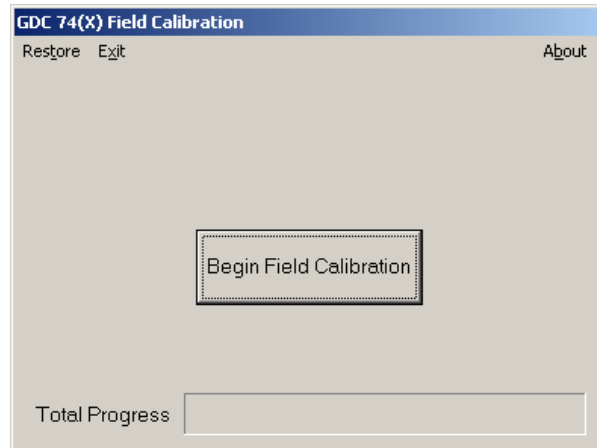

Figure 5-44. GDC 74X Field Calibration Utility, Main Page
22. After the altitude calibrations are complete, the 'Program Calibration to Unit?' screen (Figure 5-44) appears. Click 'OK' to program the new calibration to the GDC 74X unit.